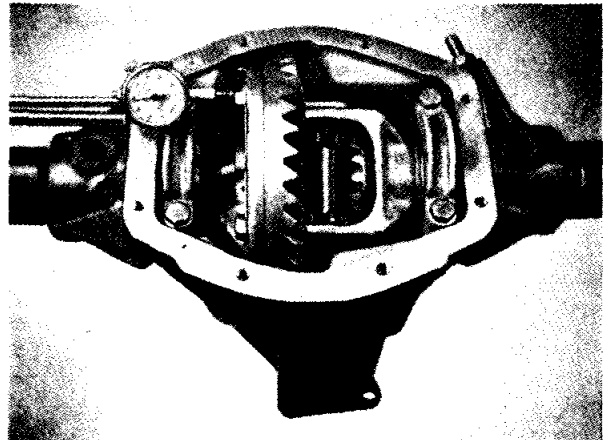

Fig. 30 Ascertaining the depth of engagement between crown wheel and pinion.
- (xvii) The differential assembly is installed in the casing in a similar manner to operation (xiv), but in this instance the D.T.I. plunger bears against the back of a crown wheel fixing bolt (Fig. 30).